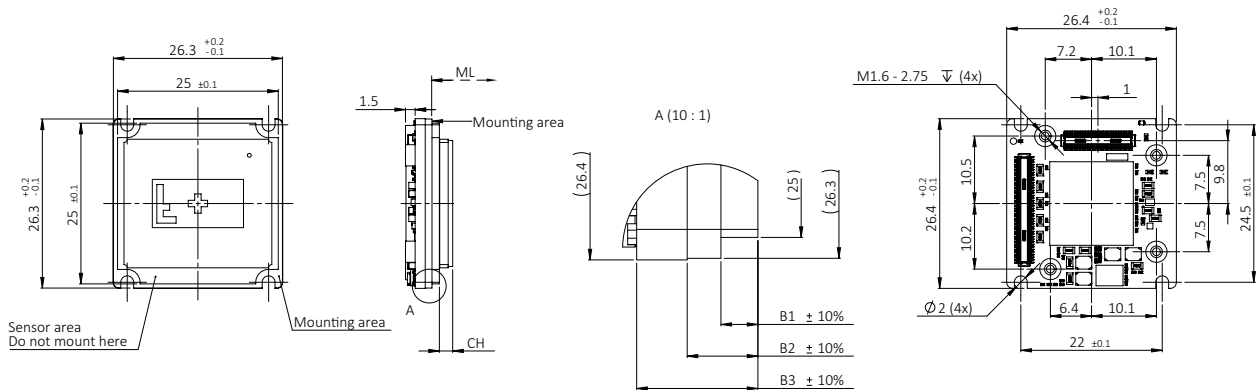

Figure 79: Bare Board (Alvium Flex) dimensions
Dimensions that are common between different models are shown in Figure 79, model specific dimensions are listed in Table 98. **Mechanical length (ML)** defines the mechanical distance from the mounting area to the lens mount front flange, without optical filter. **Components height (CH)** relates to the electronic components with maximum height, sometimes the sensor.